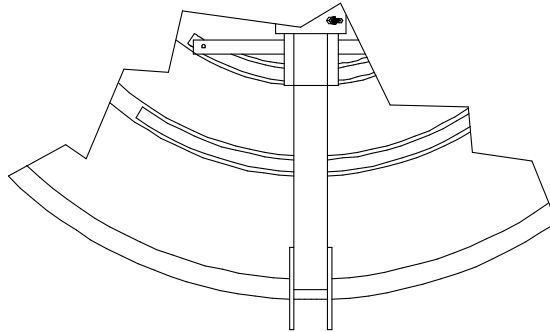

Figure 3.0-0
1.      Attach feed support extension (item #16) to reflector support tube using (6)1/2-13 x 1.50 bolts, flat washers, lock washers. Center extension with reflector major axis while tightening. Reference Figure 3.0-0